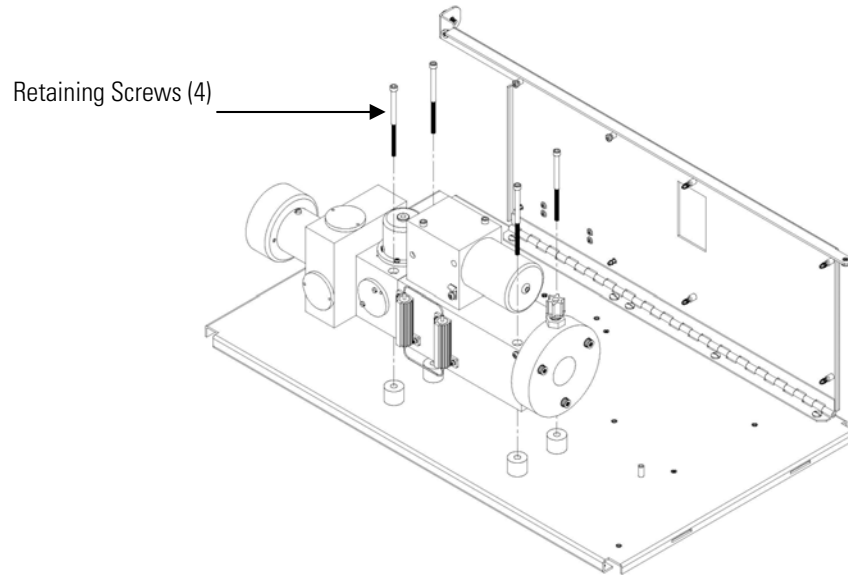

Figure 7-6. Replacing the Optical Bench
Use the following procedure to replace the optical bench (**Figure 7-6**).
3. Using the 5-32-inch wrench, remove the four screws securing the optical bench to the floor plate (**Figure 7-6**).
- Using the 5-32-inch wrench, remove the four screws securing the optical bench to the floor plate (**Figure 7-6**) and lift the optical bench from the floor plate.